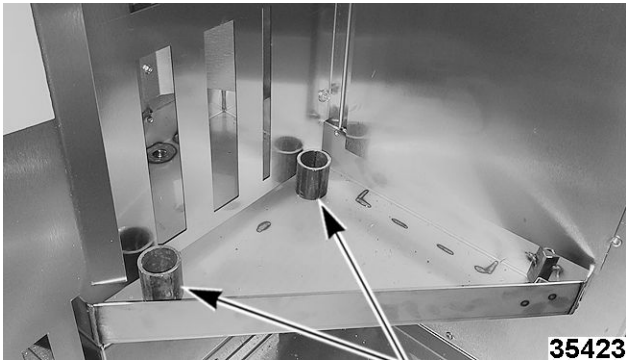
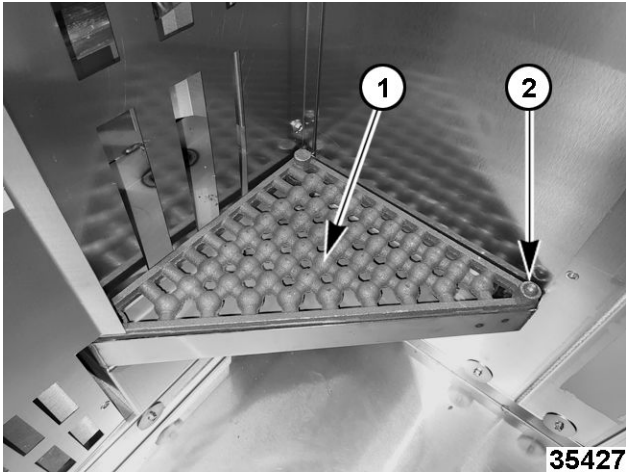
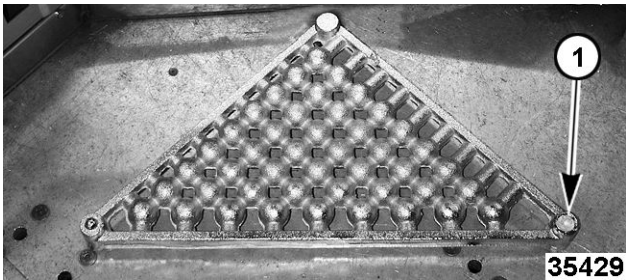

Fig. 39
Fig. 40
Fig. 41
NOTE: For OV520G1 ovens, place steam ball assembly (1, Fig. 40) on spacers (Fig. 39) to obtain correct height.
- The next steam ball assembly must be put in place matching the female post (1, Fig. 41) with male post (2, Fig. 40) of previous assembly (total of 20 sections for OV520G1 to install).